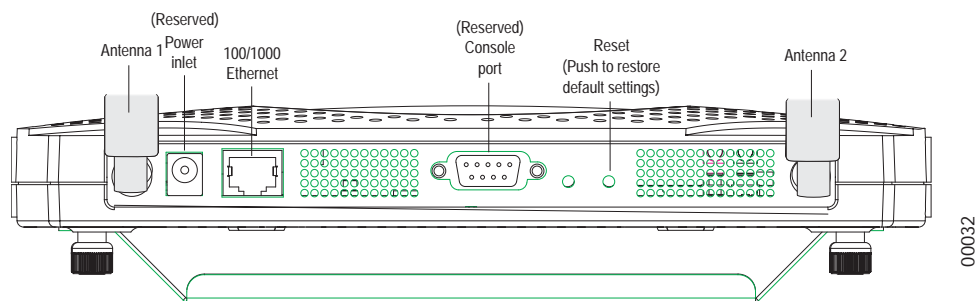

Figure 18: AP150 Connector Panel
3. Connect one end of the PoE 100BaseT Ethernet cable to the 100/1000 Ethernet connector, shown in Figure 18.
9. Connect one end of the PoE 100BaseT Ethernet cable to the 100/1000 Ethernet connector, shown in Figure 18.
10. Connect one end of the PoE 100BaseT Ethernet cable to the 100/1000 Ethernet connector, shown in (see Figure 18).
12. Connect one end of the PoE 100BaseT Ethernet cable to the 100/1000 Ethernet connector, shown in Figure 18.